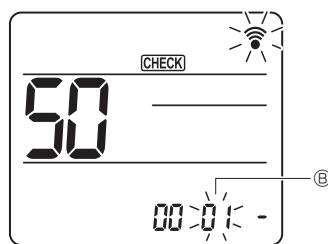

Fig. 7-19
③ Select a mode
Press the [DOWN] button to set Mode number ⑤. (Fig. 7-19)